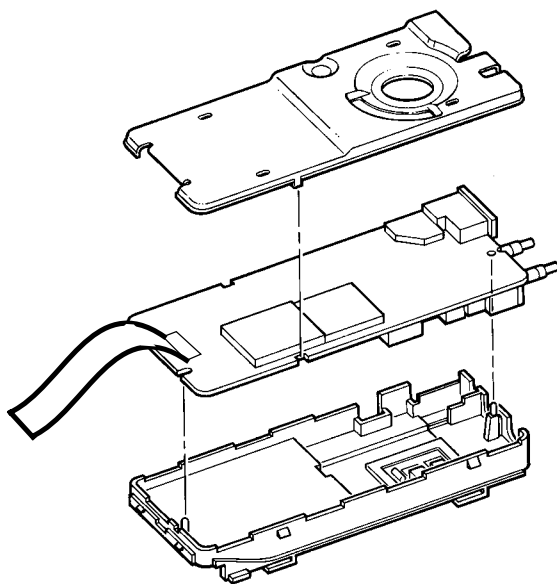

Figure 1-12. Align Pins
2. Insert the flexible circuit tail end (marked "RF" into the ZIF connector on the RF board and lock the connector by engaging the latch (Figure 1-12).
3. Insert main board into chassis using alignment pins as a guide (Figure 1-12).
4. Place front shield on main board using tabs as a guide (Figure 1-12).